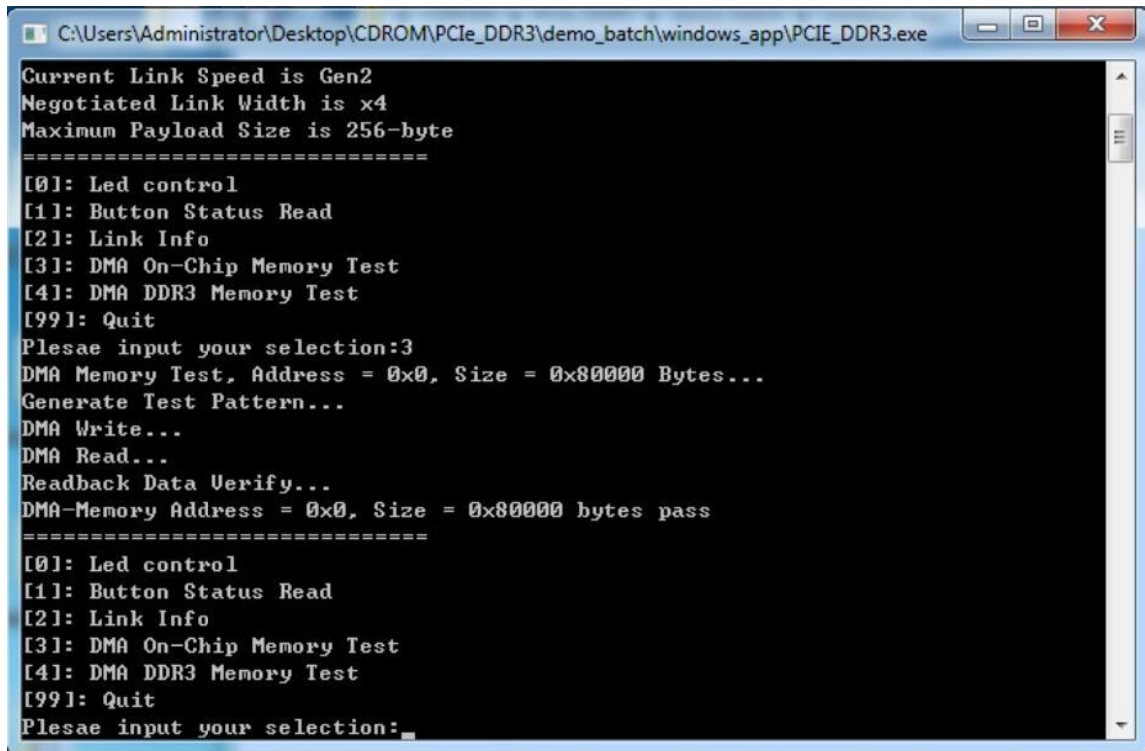

Figure 0-18 Screenshot of On-Chip Memory DMA Test Result
- Type 3 followed by the ENTER key to select DMA On-Chip Memory Test item. The DMA write and read test result will be reported as shown in Figure 0-18.